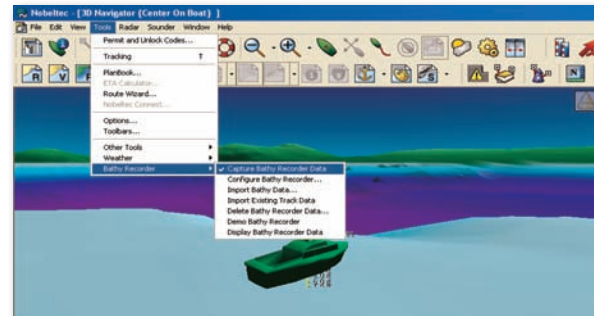

Figure 22.6 - Enable Capture Data w/ Right Corner Indicator
- **Capture Bathy Recorder Data:** This option starts the recording process of bathymetric data being transmitted by your Sounder or Depth Finder device (see **Figure 22.6**). Throughout recording, the Bathy Recorder indicator will appear in the upper right-hand window of the 3D display. Nobeltec Navigation Software must be receiving both GPS position and depth information from a depth sounder before sea floor topographic data samplings are taken. You can verify that both data feeds are functioning using the console.